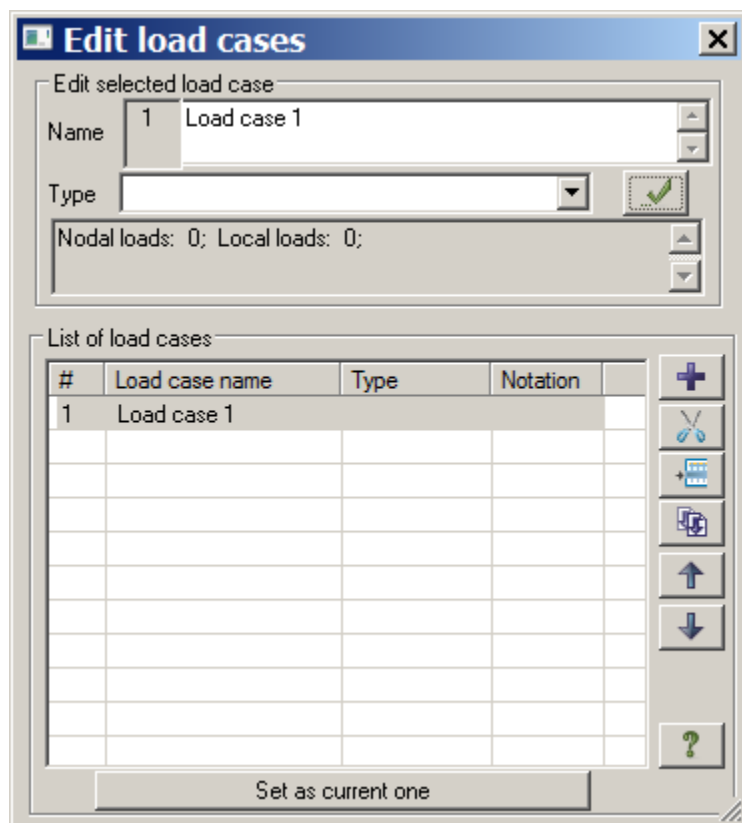

Figure 1.12 **Edit load cases** dialog box
It is allowed to define up to 300 load cases. Certain number and arbitrary name are assigned to every load case. Load case may include any number of loads. To assign number and name to a load case, on the **Create and edit** ribbon tab, select the **Loads** panel and click **Edit load cases** . In the **Edit load cases** dialog box (see Fig. 1.12) specify appropriate data. When you start a program, name **Load case 1** is displayed by default.
- ⇒ On the **Create and edit** ribbon tab, on the **Loads** panel, click **Edit load cases** . The **Edit load cases** dialog box is displayed on the screen (see Fig. 1.12).
As the type of load cases was defined in the **Edit load cases** dialog box (see Fig.1.12), the DCF table is generated automatically with parameters accepted by default for every load case. Now you have to modify parameters for the third and the fourth load cases.